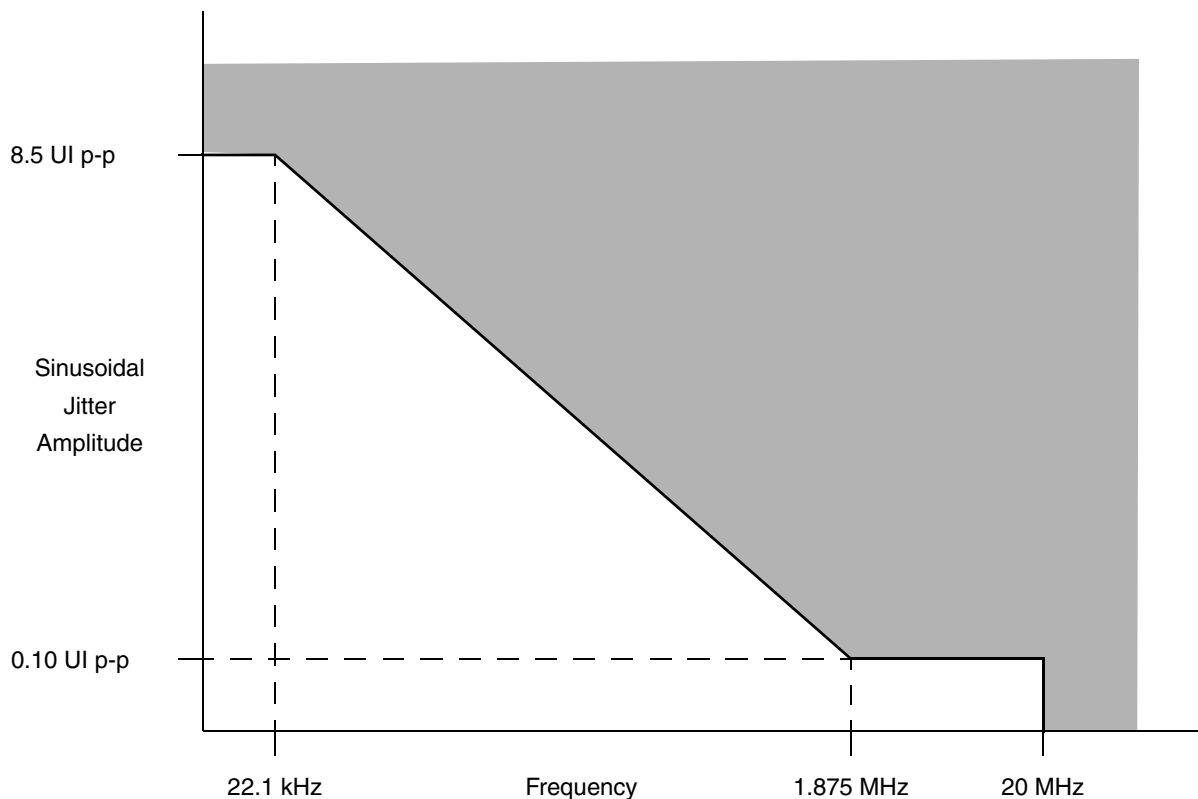

Figure 42. Single-Frequency Sinusoidal Jitter Limits
2. Total jitter is composed of three components: deterministic jitter, random jitter, and single frequency sinusoidal jitter. The sinusoidal jitter may have any amplitude and frequency in the unshaded region of Figure 42. The sinusoidal jitter component is included to ensure margin for low-frequency jitter, wander, noise, crosstalk, and other variable system effects.
2. Total jitter is composed of three components: deterministic jitter, random jitter, and single frequency sinusoidal jitter. The sinusoidal jitter may have any amplitude and frequency in the unshaded region of Figure 42. The sinusoidal jitter component is included to ensure margin for low frequency jitter, wander, noise, crosstalk and other variable system effects.